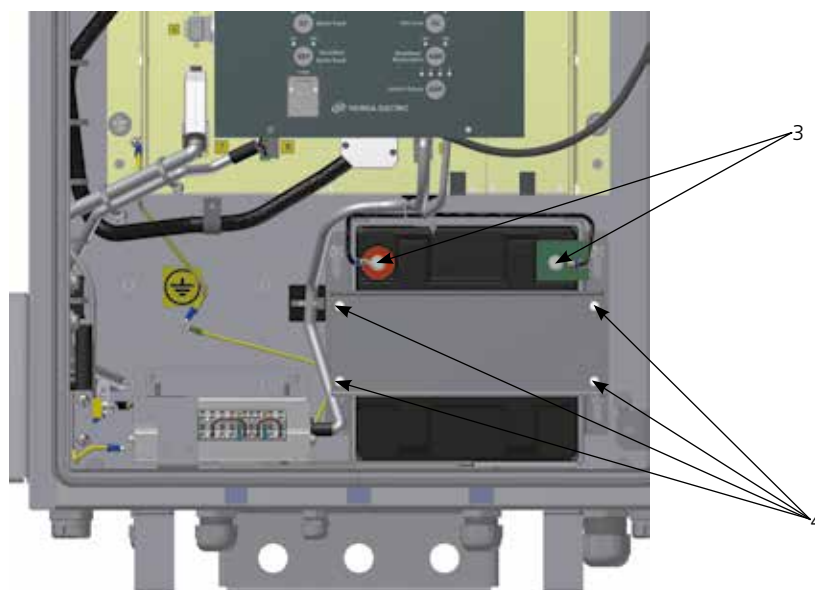

Figure 60
- 4) Unscrew four bolts from the battery fixing plate (Figure 60);
- 4) Install battery fixing plate and fix it with four bolts (Figure 60);